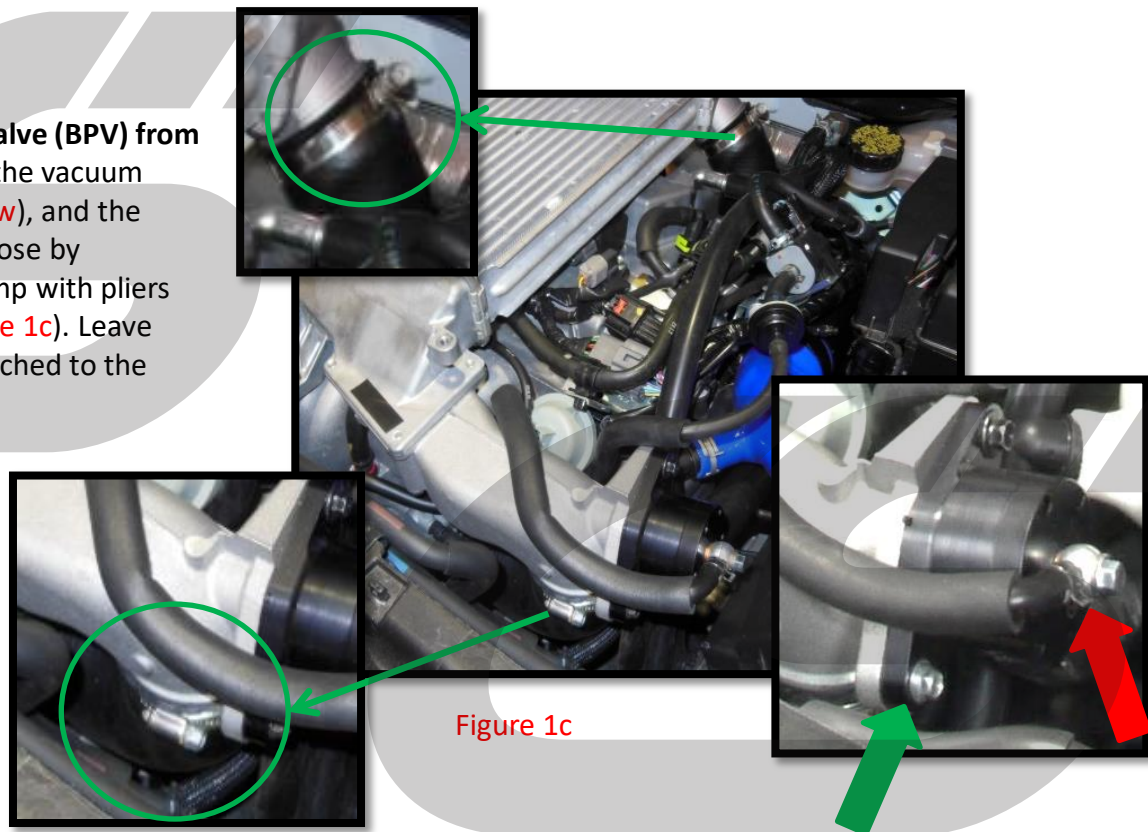

Figure 1c
c) Remove the clamps for the throttle body and turbo boost tubes from the intercooler. Use a 10mm socket to loosen the clamps (green circles in Figure 1c).
d) Detach the bypass valve (BPV) from the intake. Remove the vacuum signal hose (red arrow), and the large BPV to intake hose by compressing the clamp with pliers (green arrow in Figure 1c). Leave the bypass valve attached to the intercooler pipe.